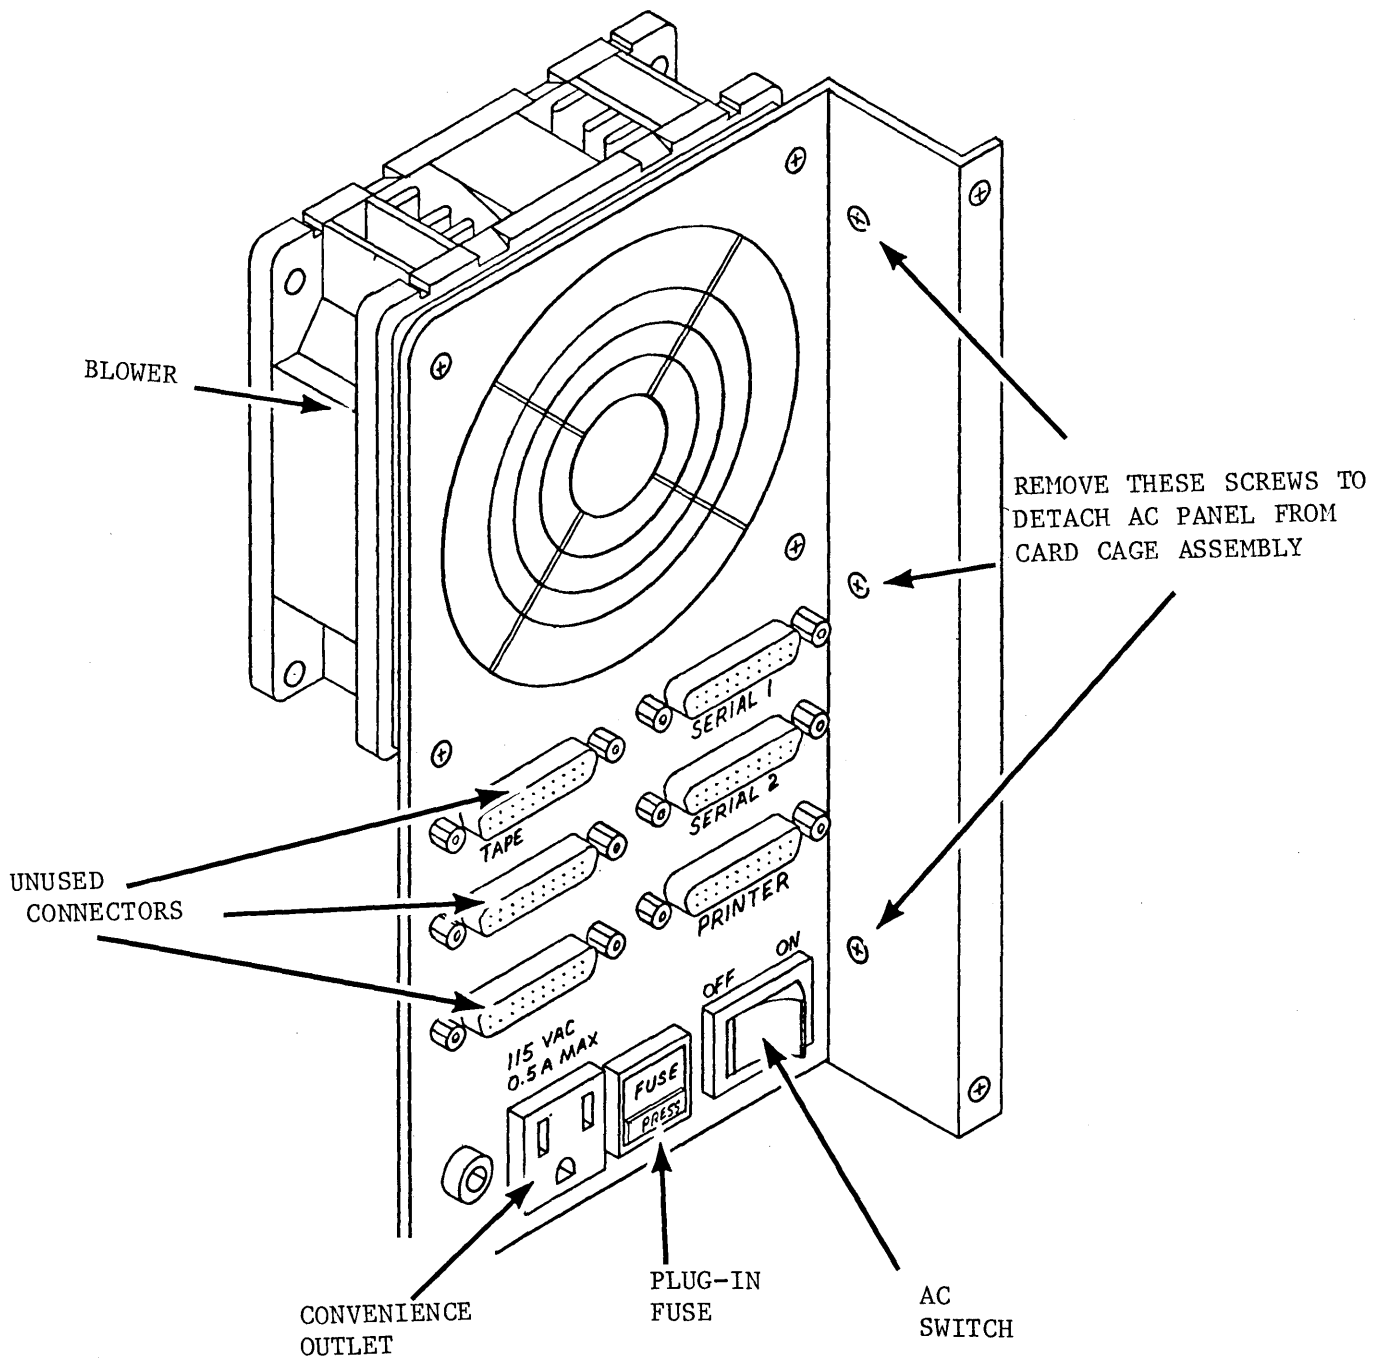

Figure 3-7. Fan Assembly
- d. Remove the three screws holding the panel to the card-file assembly. See Figure 3-7, Fan Assembly.